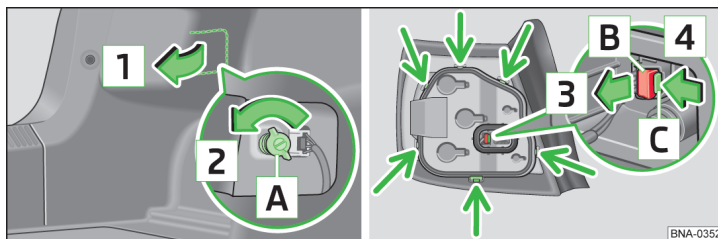

Fig. 115 Removing the light/pulling out the connector
- Lift up the cover in the direction of arrow **1** » fig. 115.
- Tighten the light with the plastic nut **A** in the opposite direction to arrow **2** » fig. 115.
- Unlock the bulb holder using the locking latches in the areas » fig. 115 on page 101 marked with arrows and remove the bulb holder from the light.